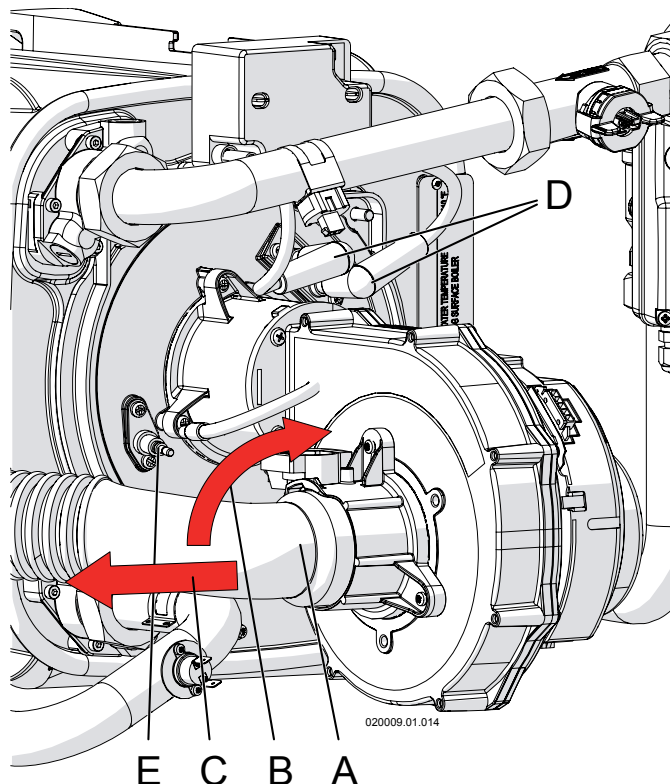

Figure 16-4 - Remove the air inlet silencer
- 4.- Disconnect the two wires "D" (Figure 16-4) from the ignition electrodes and the wire "E" (Figure 16-4) from the flame detection electrode;
- 5.- Rotate the air inlet silencer "B" (Figure 16-4) in the up direction;
- 6.- Pull in the left direction "C" (Figure 16-4) the air inlet silencer and remove it from the fan;